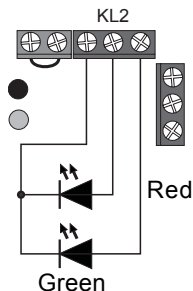

Figure 5
- The LEDs are connected as shown in figure 5. Make sure that you connect the red and green LEDs correctly, so that they light up like the LEDs that are already built-in.